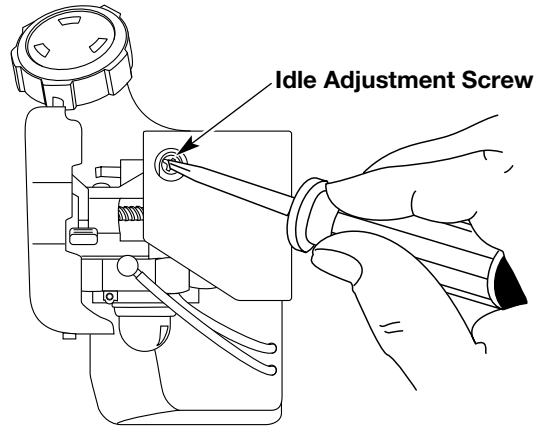

Fig. 37
The idle speed of the engine is adjustable. An idle adjustment screw is reached through a hole in the top of the engine cover (Fig 37).
2. Release the throttle trigger and let the engine idle. If the engine stops, insert a small phillips or flat blade screwdriver into the hole in the engine cover (Fig. 37). Turn the idle speed screw in, clockwise, 1/8 of a turn at a time (as needed) until the engine idles smoothly.